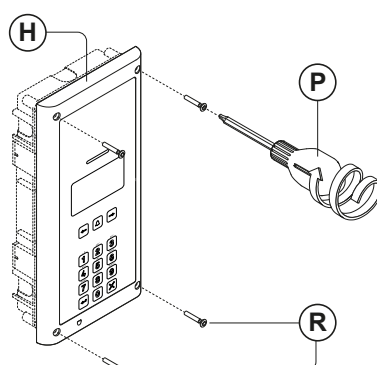

Fig. 67
10. After the system has been tested and is working correctly, move back the module support frame (H) carefully and then fix it to the flush box (C) using the screwdriver provided (P) (using the torx end) and the torx pin security screws provided (R), as shown in **Fig.67**. **Note: do not over tighten the screws more than is necessary.**